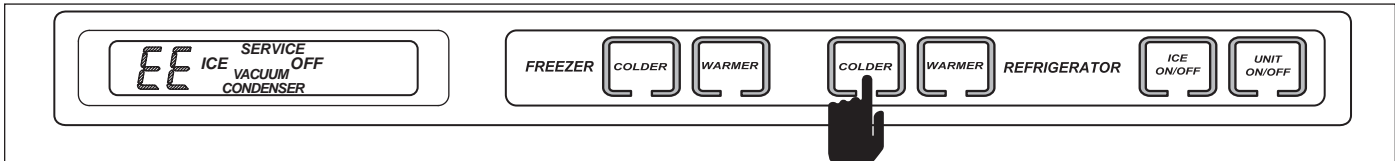

Figure 3-35. While in Diagnostic Mode Press COLDER Key
1. While in diagnostic mode, If “EE” is displayed in place of a temperature reading, the thermistor in that location is either faulty or the electrical line is separated. (In this example, the refrigerator evaporator thermistor is faulty.) (See Figure 3-35)